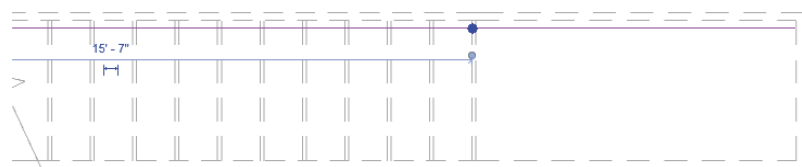

FIGURE 4.26 Split railing path sketch
10. Use the Modify panel's Split Element tool  to split the railing path at the edge of the landing (Figure 4.26).